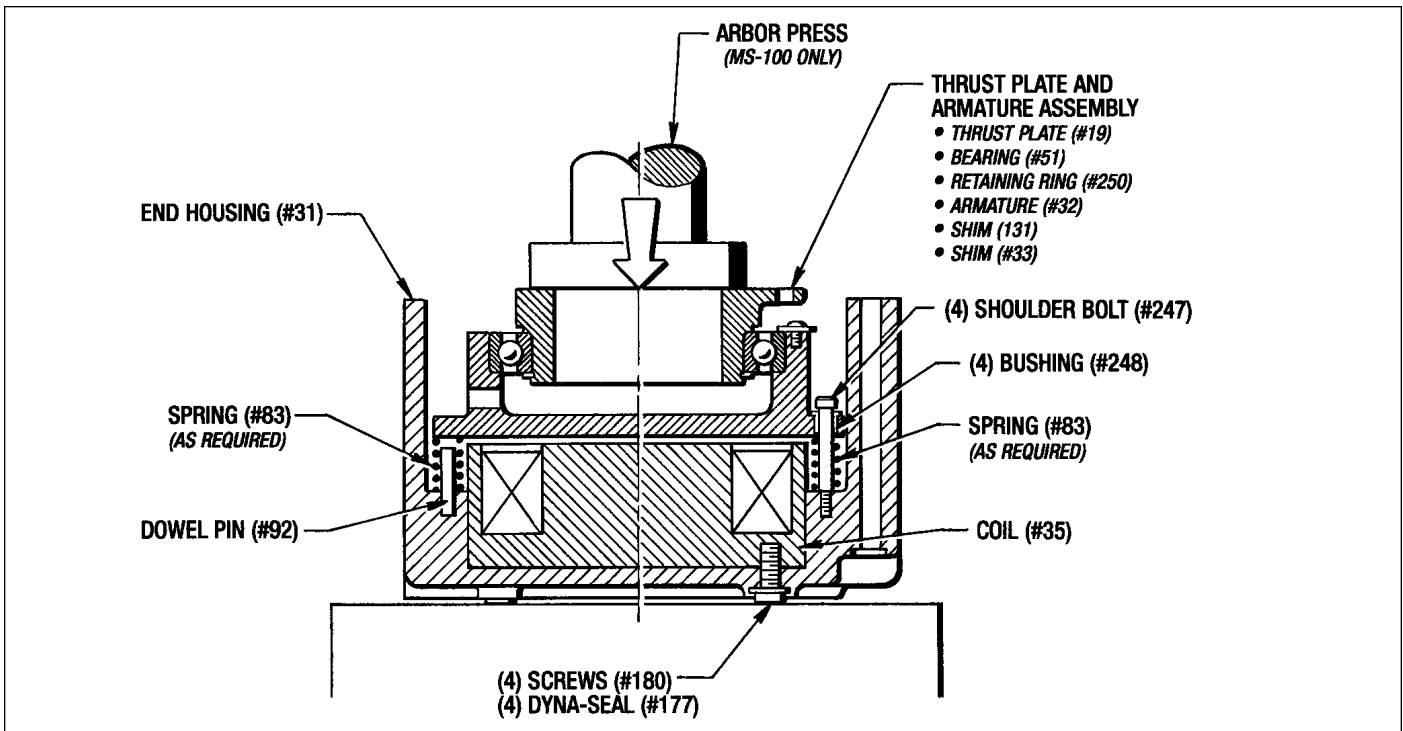

Figure 7.4 - Armature Reassembly
7. Place the Thrust Plate and Armature Sub-Assembly in place over the springs and coil. Make sure the Springs are in position with the Shoulder Bolt Holes in the Armature. Apply Blue Loctite to the threads of the (4) Shoulder Bolts (#247). Insert them into the Armature (#32) and tighten with a T-Handle Allen Wrench. (See Figure 7.4)